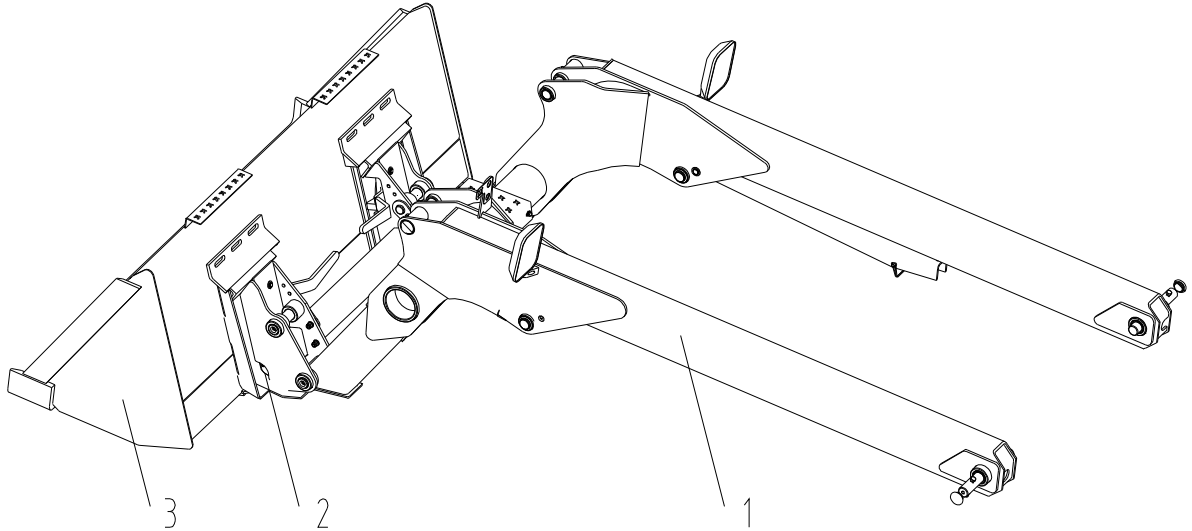

Figure7 WORKING DEVICE
2.5.3.1 The working device of the loader is mainly made up of the lift arm, the bucket base and the bucket. See the Figure 7.